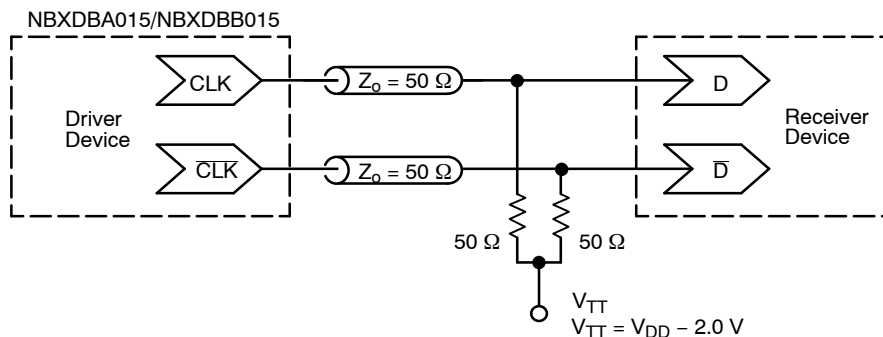

Figure 5. Typical Termination for Output Driver and Device Evaluation (See Application Note AND8020/D – Termination of ECL Logic Devices.)
2. Measurement taken with outputs terminated with 50 ohm to $V_{DD}-2\text{ V}$. See Figure 5.
3. Measurement taken with outputs terminated with 50 ohm to $V_{DD}-2 \text{ V}$. See Figure 5.